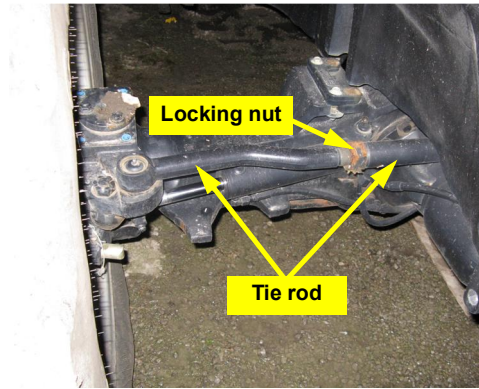

Figure 2a: Tie rod and locking nut location
a. Locate the tie rod on the left hand side of the steering axle (Figure 2a).